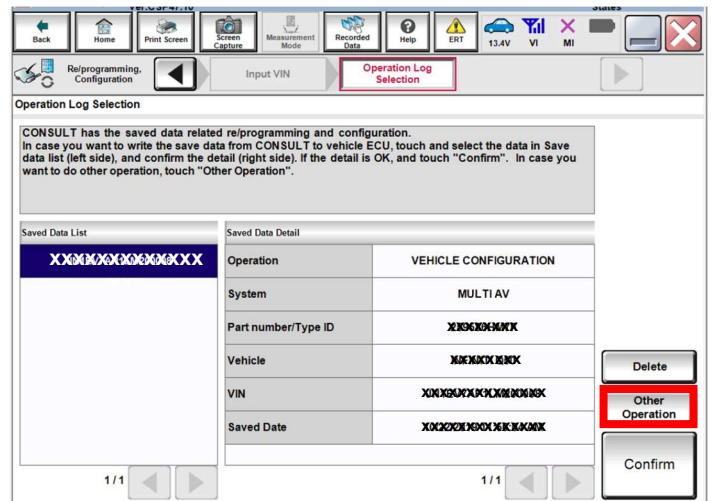

Figure 19
21. If a saved operation is displayed, similar to Figure 19, select **Other Operations**.